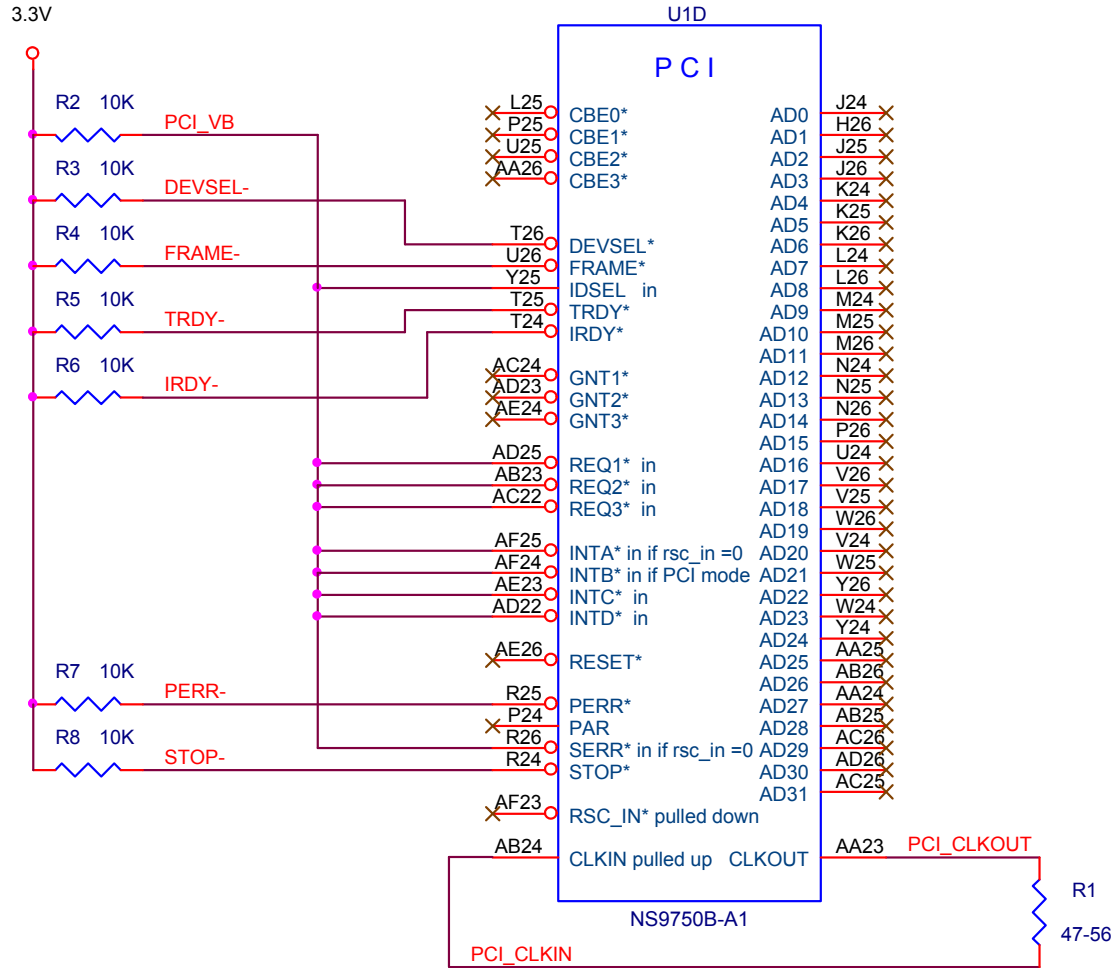

Figure 6: NS9750B-A1 unused PCI termination
- 1 Add external pulldown resistor or drive with the NS9750B-A1 *only* if the PCI interface is not being used. Figure 6, "NS9750B-A1 unused PCI termination," shows which signals can be driven by the NS9750B-A1 and which signals require pullups or pulldowns.
Figure 6 shows how to terminate an unused PCI.